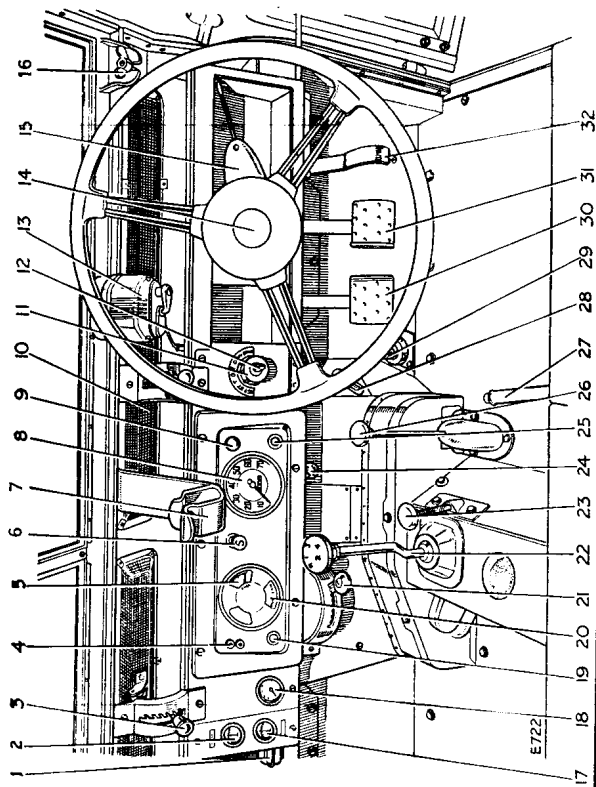

Fig. 11. Layout of controls and instruments
14. The controls and instruments are illustrated at Fig. 11.
Key to Fig. 11